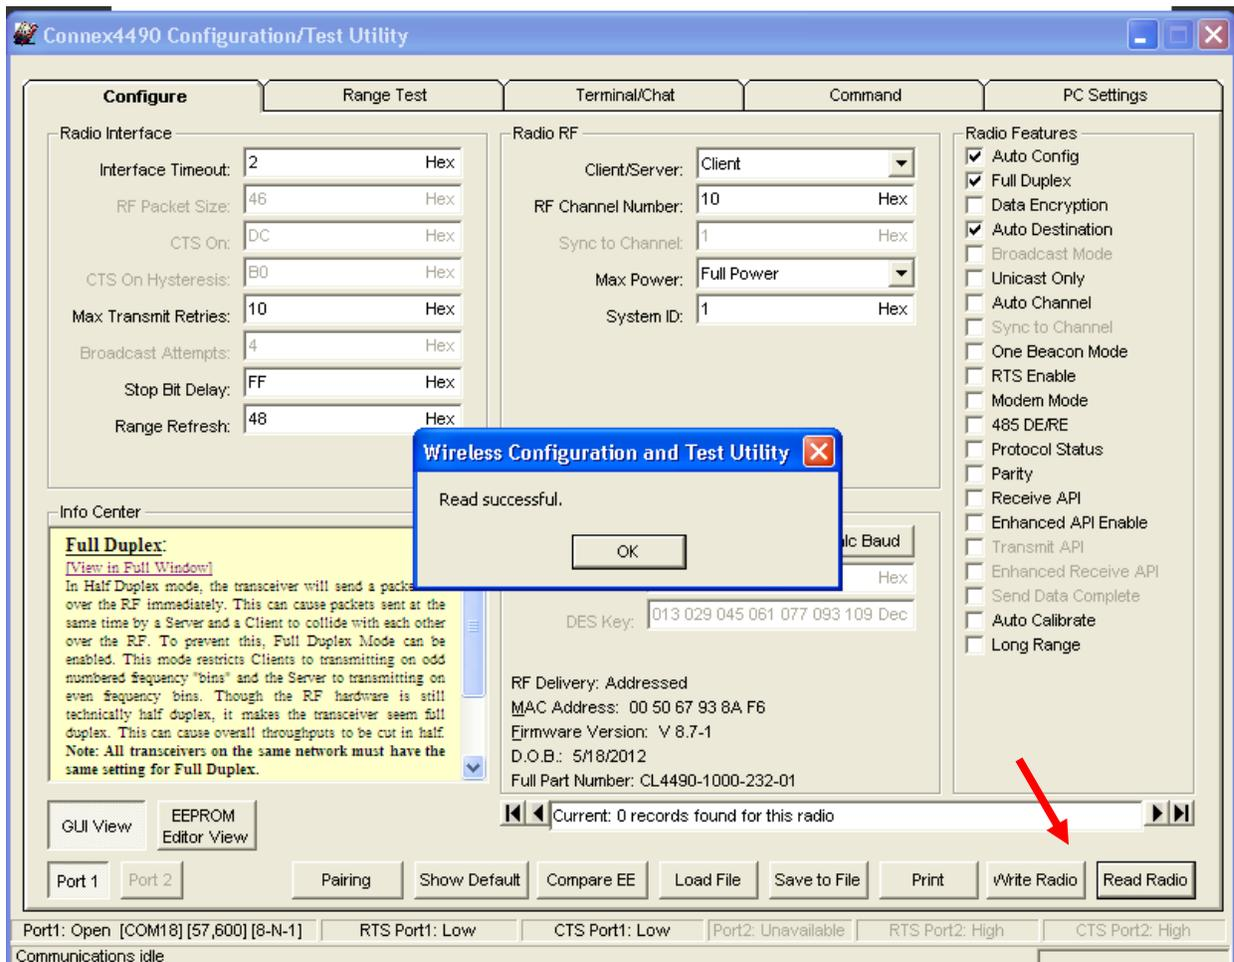

Figure 9: Configure tab - Read Successful
- Go to the Configure tab and click the **Read Radio** button at the bottom right of the screen. A message stating “Read Successful” should appear after a successful read (Figure 9).